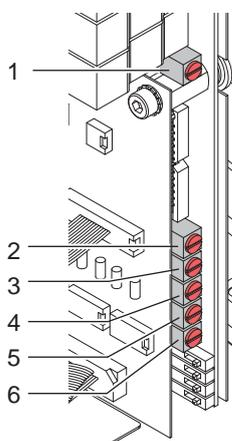
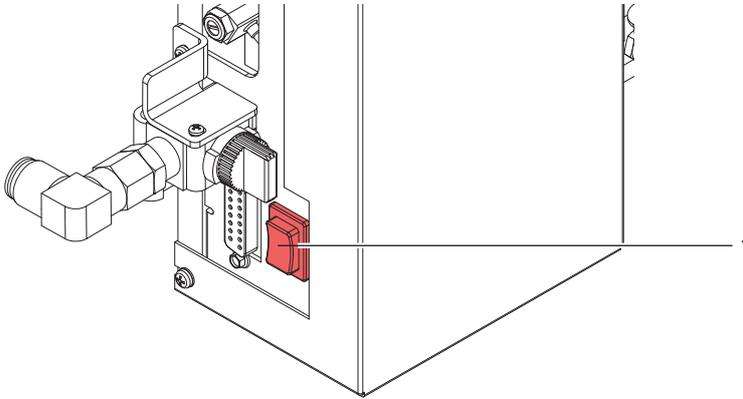

Figure 16 Regler
Figure 17 Pre-dispense key
After removing the cover (2) of the manifold, 6 potentiometers (Figure 17) as well as 4 DIP switches (Figure 16) become accessible by which the parameters can be set.